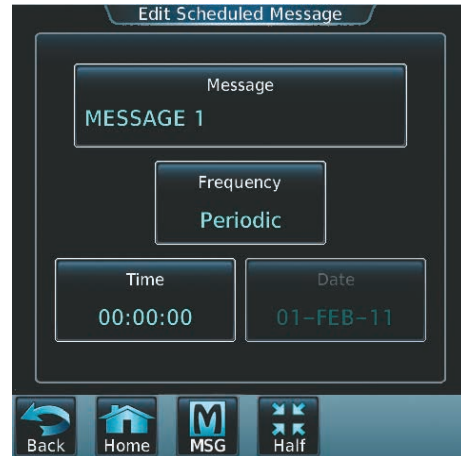

Figure 8-92 Touch Message Button
- 3) Touch the **Message** Button as shown in Figure 8-92.